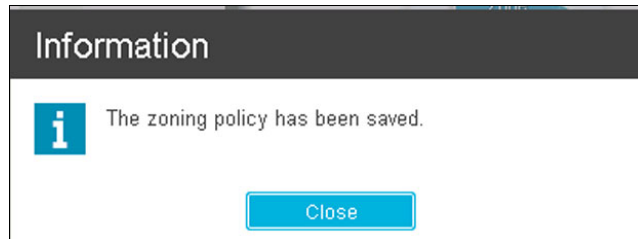

Figure 6-38 Changes successfully saved
3. Click **Save**. A window is displayed to confirm the result of the save action (Figure 6-38).